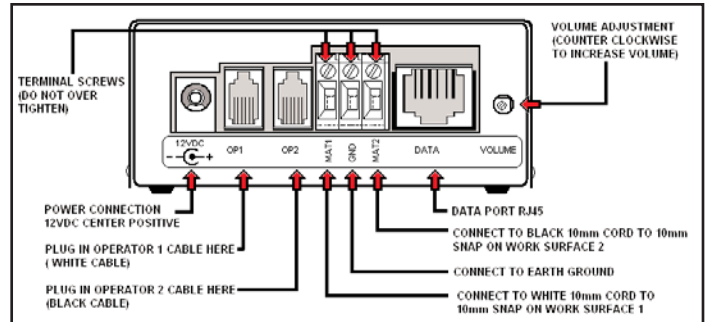

Figure 2. Dual-Wire Dual-Operator Programmable Monitor Rear View
D. Attach the tinned wire ends of the mat wires to the appropriate screw terminal connection on the rear of the unit. (See Figure 2). The white wire is for operator #1 and the black wire is for operator #2.
H. Route the operator remote wires to the monitoring unit and insert the modular plugs into the appropriate jacks on the rear of the unit. (See Figure 2)